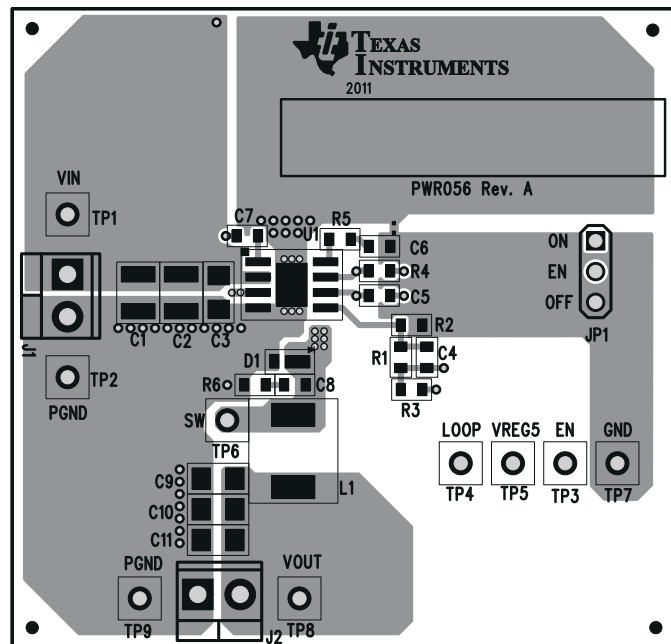
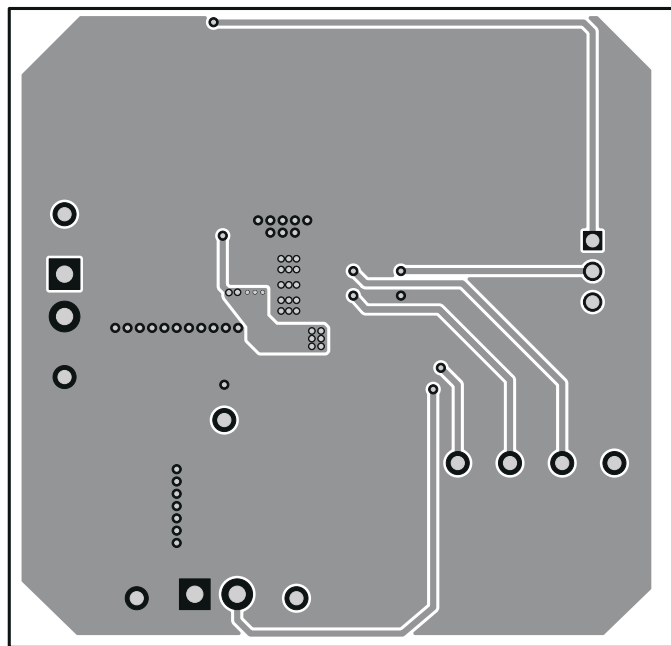

Figure 5-1. Top Assembly
Figure 5-5. Bottom Layer
The board layout for the TPS54339EEVM-056 is shown in Figure 5-1 through Figure 5-5. The top layer contains the main power traces for VIN, VO, and ground. Also on the top layer are connections for the pins of the TPS54339E and a large area filled with ground. Many of the signal traces also are located on the top side. The input decoupling capacitors are located as close to the IC as possible. The input and output connectors, test points, and all of the components are located on the top side. An analog ground (GND) area is provided on the top side. Analog ground (GND) and power ground (PGND) are connected at a single point on the top layer near C6. The two internal layers are completely dedicated to power ground planes. The bottom layer is primarily power ground. A copper pour area on the bottom layer is used to connect the switching node (SW) to the output inductor and the boost capacitor. Traces also connect enable control jumper, EN, VREG5, and LOOP test points, and the feedback trace from VOUT to the voltage setpoint divider network.